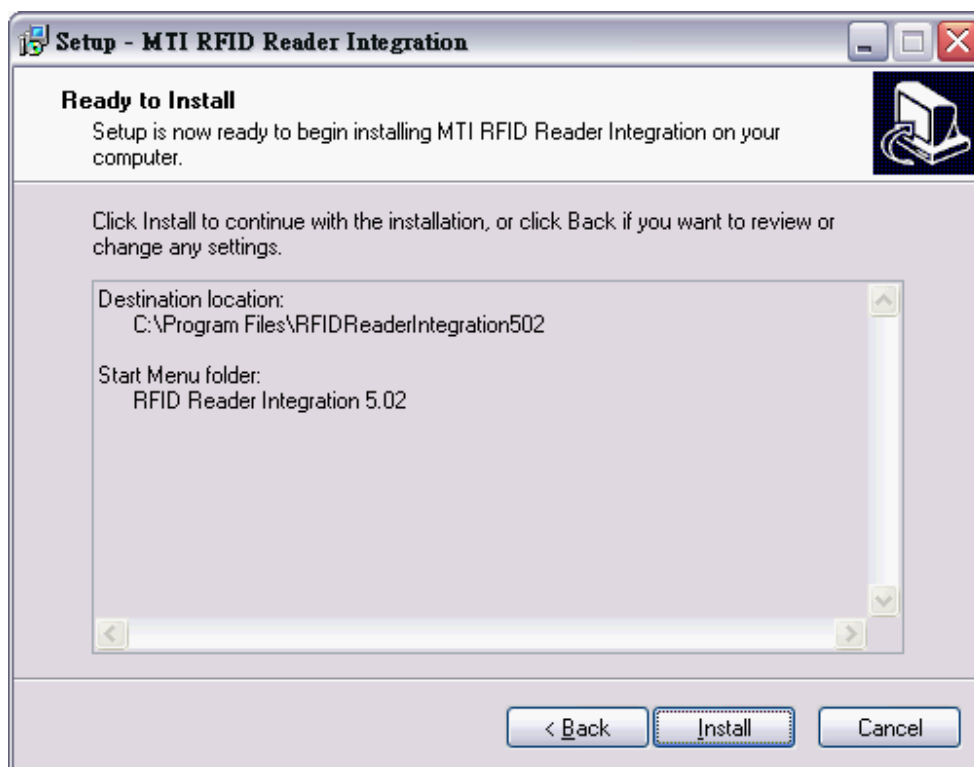
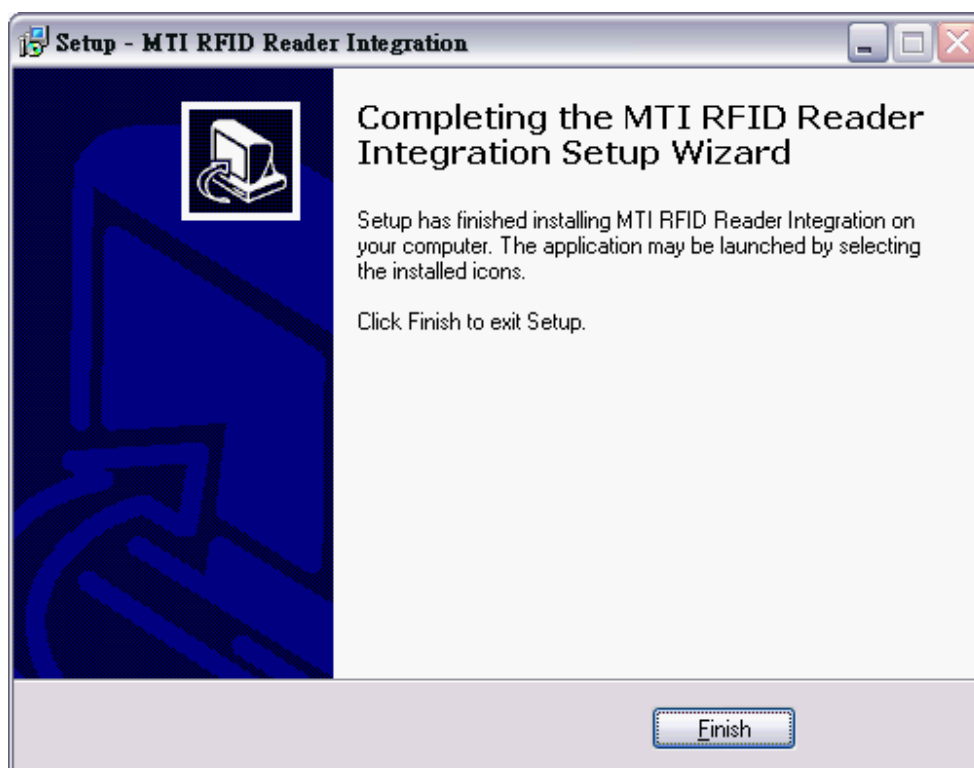

Fig. 5 Ready to install.
Fig. 6 Finish the installation.
Step 4: Install the program and finish wizard, shown in Fig. 5 and Fig. 6